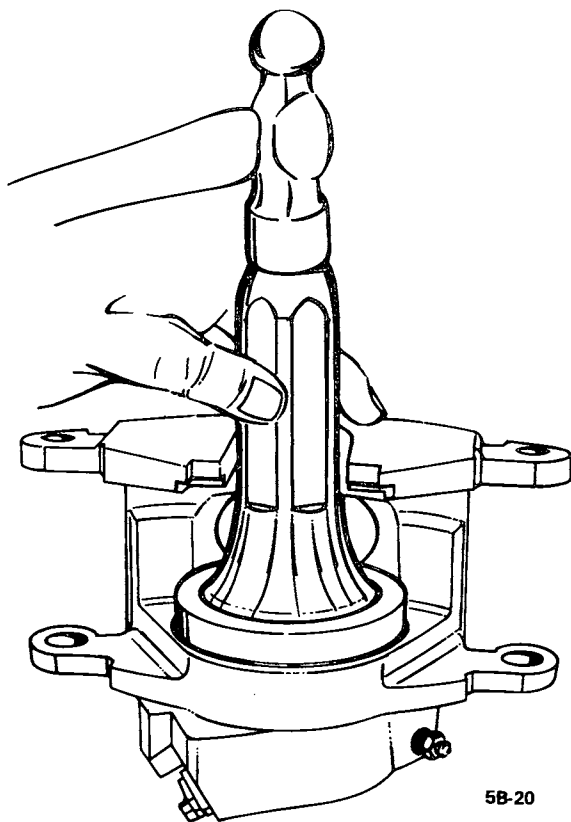

Figure 5B-27-Seating Boot
1. Lubricate the bore in the caliper and the new piston seal with clean brake fluid. Position the seal in the caliper bore groove. Lubricate the piston with clean brake fluid and assemble a new boot into the groove in the piston so that the fold faces the open end of the piston. Insert the piston into the caliper bore, using care not to unseat the seal and force down to the bottom in the bore. This will require a force of 50 to 100 pounds. Position the OD of the boot in the caliper counterbore and seat with tool No. J-22904. See Figure 5B-27.
is installed fully, below the caliper face, and evenly all around. See Figure 5B-27. Otherwise dirt or moisture may enter the bore and cause damage or corrosion.